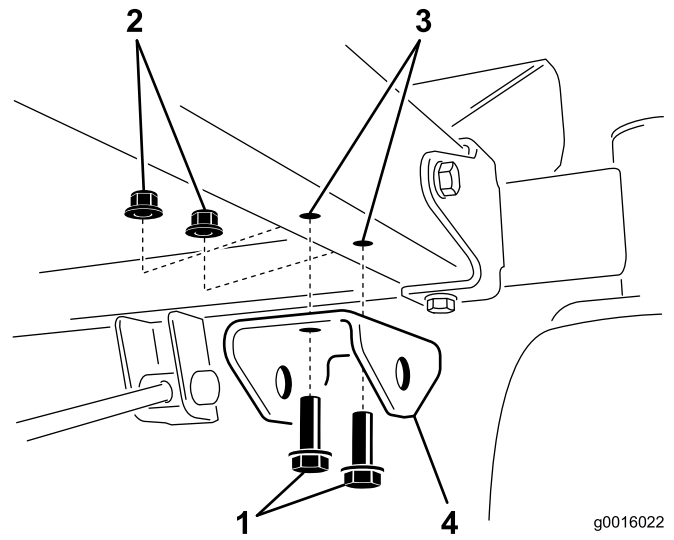

Figure 5
6. At the front, right side of the machine, install the pedal bracket to the frame as shown in Figure 5.